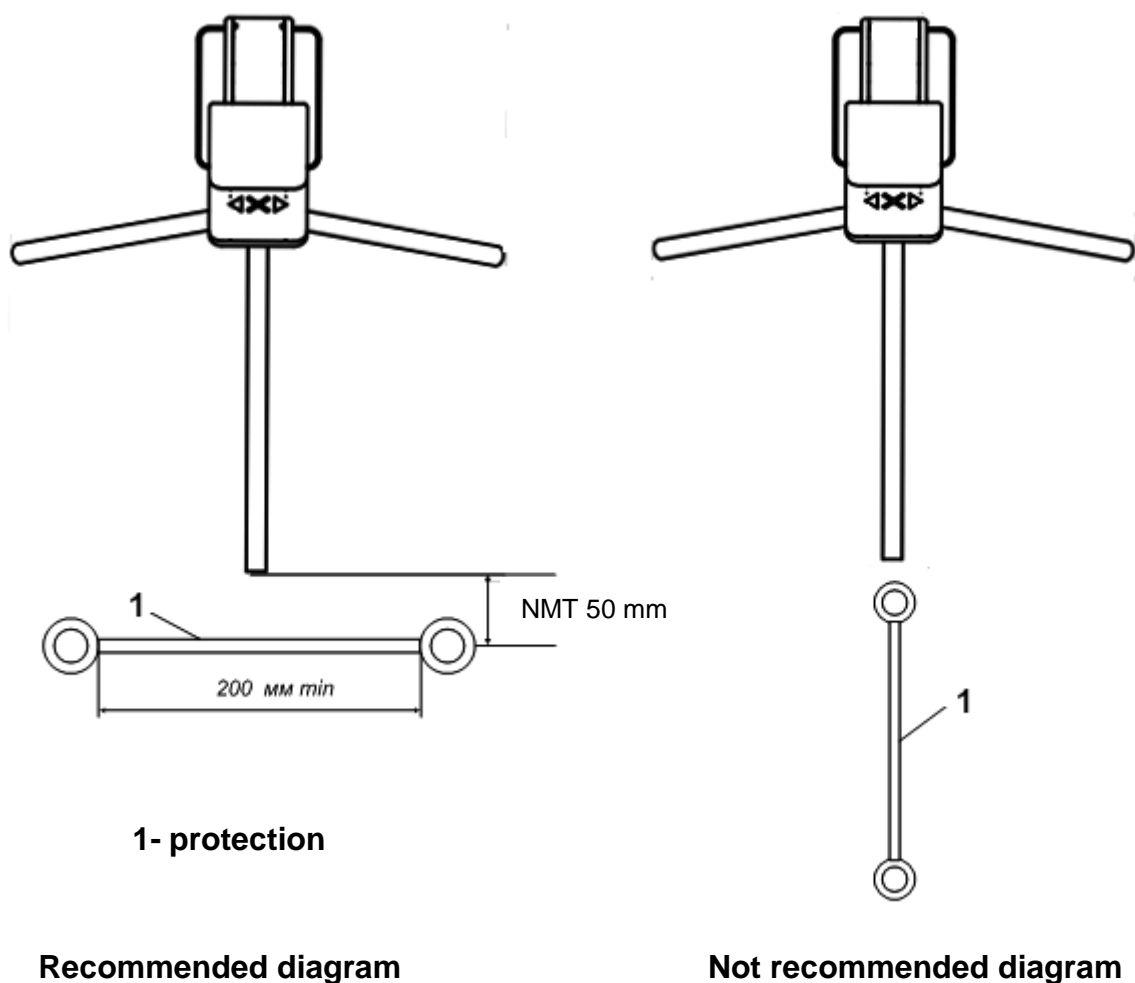

Figure 3 – Turnstile passage zone arrangement
3.5.1 Figure 3 –turnstile passage zone arrangement and guidelines on product orientation.